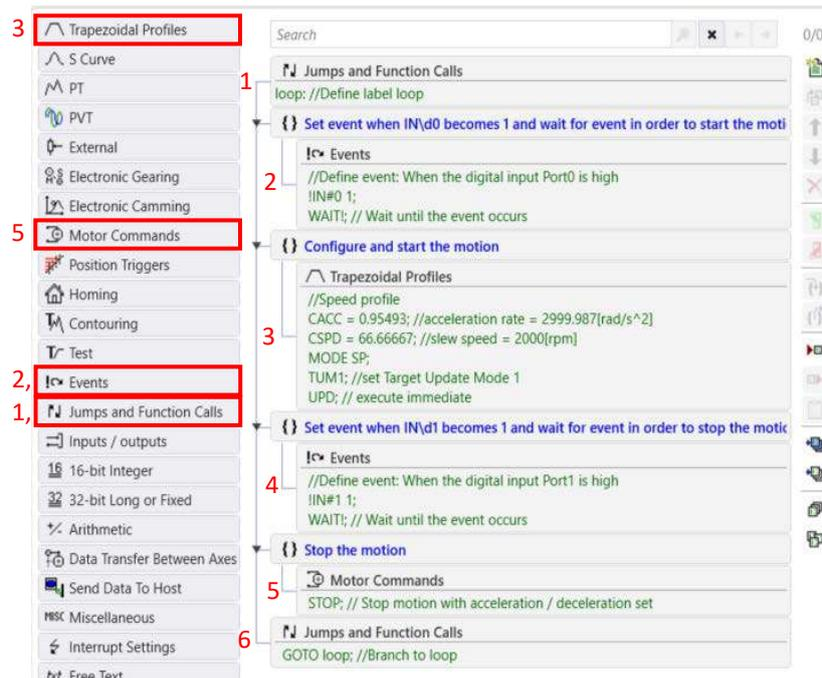

Figure 2. EasyMotion Studio II implementation
Now, we will cover each step illustrated in Figure 2, in relative order of appearance.
- a) The “Events” dialogue allows defining a programmable condition and can be opened by clicking on the button (Figure 2 – step 2 and step 4).
- b) The “Motion – Trapezoidal Profiles” dialogue (Figure 2 – step 3) allows to program a position or speed profile with a trapezoidal shape of the speed, due to a limited acceleration. In this case, it was used to insert the speed profile.
- c) The “Motion - Motor Commands” dialogue (Figure 2 – step 5), was used to stop the motor, after the “IN1” digital input transition was detected by the event described above.
The “*Stop the motor with acceleration / deceleration set*” TML command will stop the motor using a deceleration equal with the “CACC” (acceleration rate) parameter value. In this case the “CACC” (acceleration rate) parameter value is the one that was set in the “Trapezoidal Profiles” dialogue (Figure 2 – step 3) described above (CACC = 3000 rad/s²).
- d) For the program to run continuously, the code above was introduced in an infinite loop that was created using the “Jumps and Function Calls” dialogue (Figure 2 – step 1 and step 6).